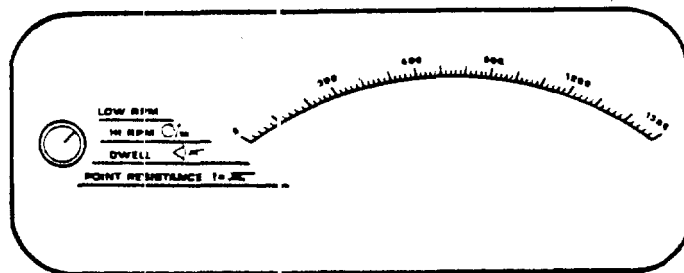

FIGURE 5 - IDLE SPEED/IDLE MIXTURE BALANCE TESTS
(1) Turn the test selector switch to the LOW RPM position (See Figure 5).
(2) On automatic transmission vehicles, place shift selector in the correct position as specified by the auto manufacturers.
(1) Turn the test selector switch to LOW RPM position (See Figure 5).
(2) At normal idle speed, observe meter and turn idle mixture screw(s) slowly in (clockwise) and/or out (counter-clockwise) to achieve highest RPM and smoothest idle operation.
(1) Turn the test selector to the LOW RPM position (See Figure 5).
(2) At norms idle speed, pull out the PCV hose assembly from the valve cover of the engine.
(3) Place thumb over end of PCV valve while observing meter.
(1) Turn the test selector to LOW RPM position (See Figure 5).
(2) Remove the air filter and note the RPM reading.
(3) At normal idle speed, with the air filter in place, note the RPM reading.